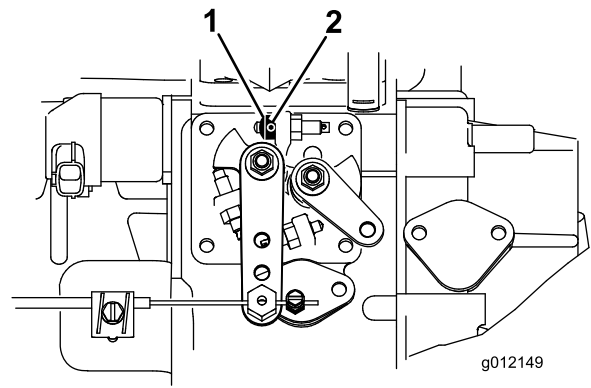

Figure 8
- Loosen the set screw on the throttle stop (Figure 8).
- Slide the throttle stop onto the high-idle stop screw (Figure 8). The chamfered end of the throttle stop is to be positioned outward.